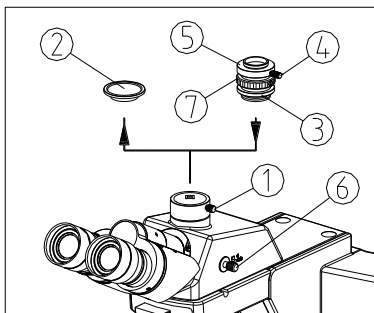

Fig. 29
(1) Loosen the lock screw ① of trinocular head, and take out the dust-cover ② (See Fig.29).
(2) Take off the dust-cap of the TV adapter ③. Insert the TV adapter into the trinocular head as shown in the figure and screw down the lock screw ①.
(3) Loosen the lock screw ④ of the TV adapter. Take down the vidicon interface (C type) ⑤ from the TV adapter, and screw into the CCD or vidicon. Then install the interface into the TV adapter, and screw down the lock screw ④.
(4) For binocular observation, pull the light path selecting pole ⑥ to the outmost and observe the image. If the image is unclear, rotate the adjustment tube ⑦ until it is clear.